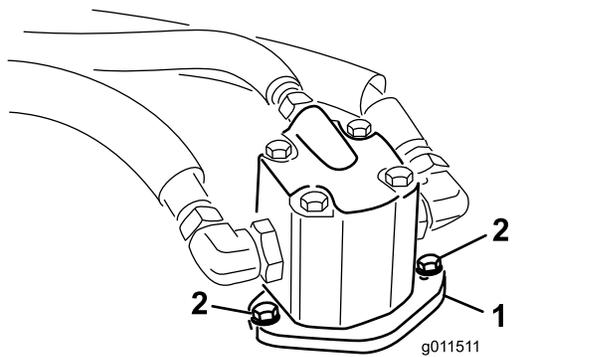

Figure 95
4. Remove the bolts securing the hydraulic motor to the mower deck (Figure 95).